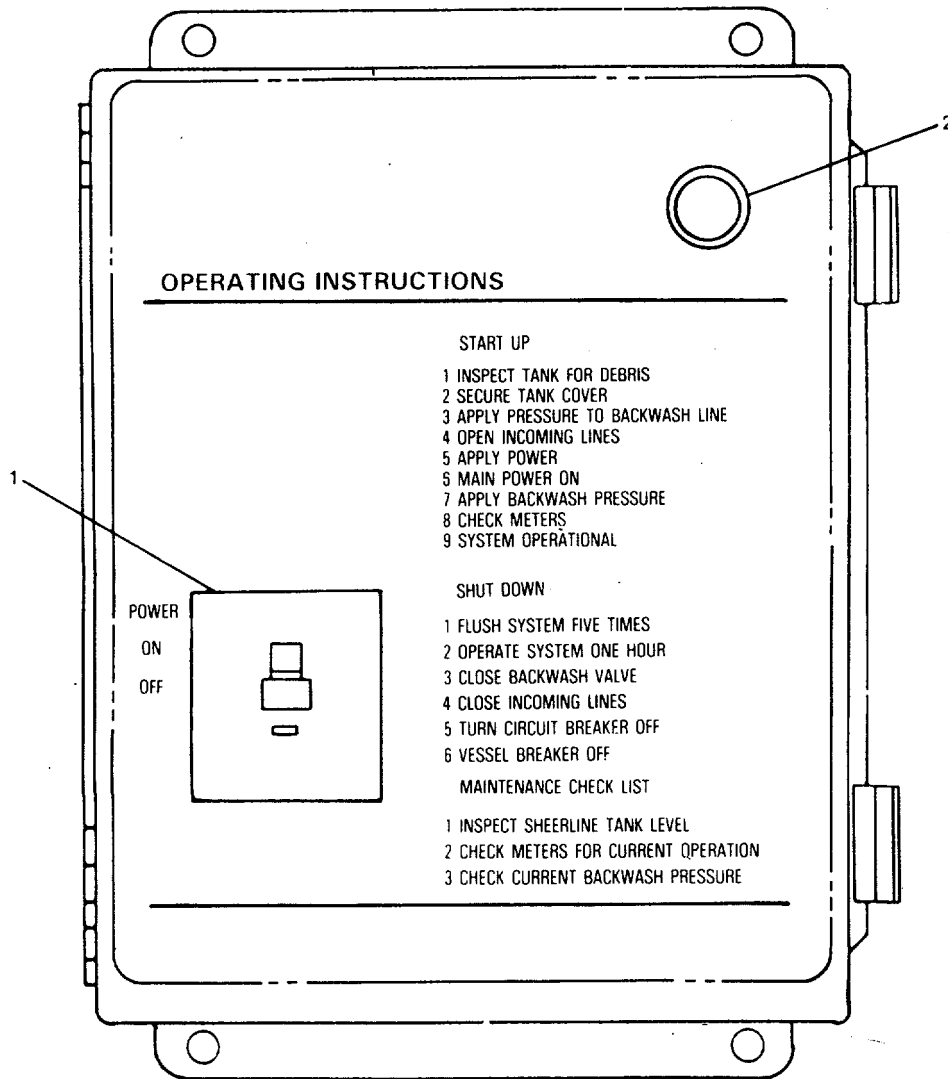

Figure 2-2. Control Module Assembly Front Panel.
- (8) Turn vessel's primary power circuit breaker ON (TM 55-1905-223-10). The green POWER ON indicator light on the Remote Status Indicator should now be lit (ON).
- (9) Close the circuit breaker (1, FIGURE 2-2) on the control module front panel. The green POWER ON light (2) on the control module should now be lit (ON).